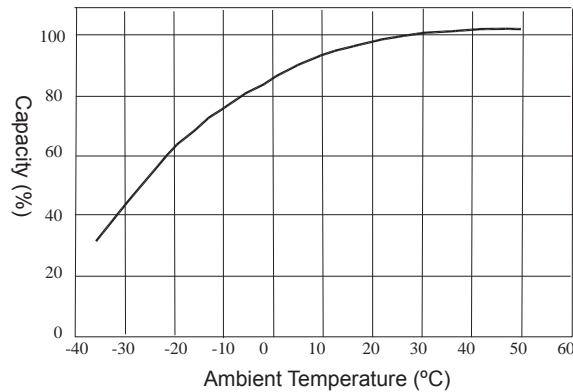

Fig. 1-1, Available Capacity vs. Ambient Temperature
- As batteries get colder, the available capacity is reduced. This is related to the kinetics of the electrochemical reactions and the resistivity of the electrolyte (See Fig. 1-1).